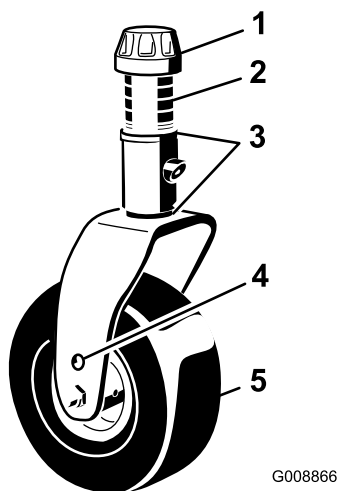
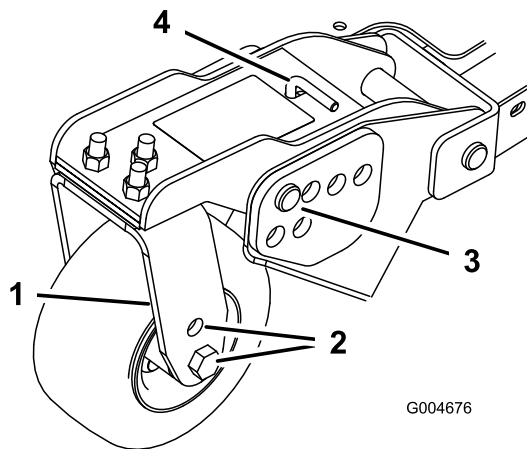
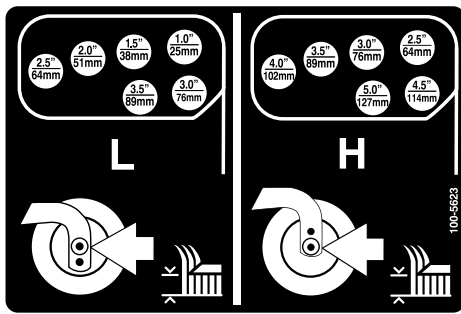

Figure 20
Figure 22
Figure 23
1. Position the caster-wheel axles in the same holes in all of the caster forks (Figure 20 and Figure 22).
2. Remove the tensioning cap from the spindle shaft and slide the spindle out of the caster arm (Figure 20).
6. Remove the hairpin cotter and clevis pins from the caster-pivot arms (Figure 22).
7. Rotate the tension rod to raise or lower the pivot arm until the holes are aligned with the selected height-of-cut bracket holes in the mower-deck frame (Figure 22 and Figure 23).